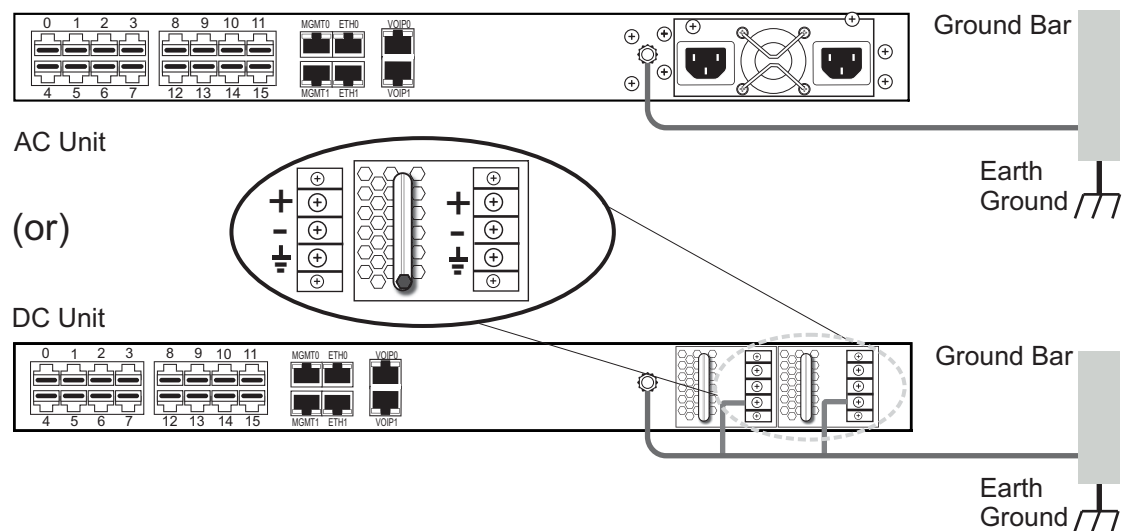

Figure 2.5 Ground Connection
- Do NOT daisy chain the ground between equipment. Use a ground bus bar, as show in figure 2.5 on page 17.
1. Connect one end of a ground wire to the ground lug of the TSBC5000 series. See figure 2.5 on page 17.